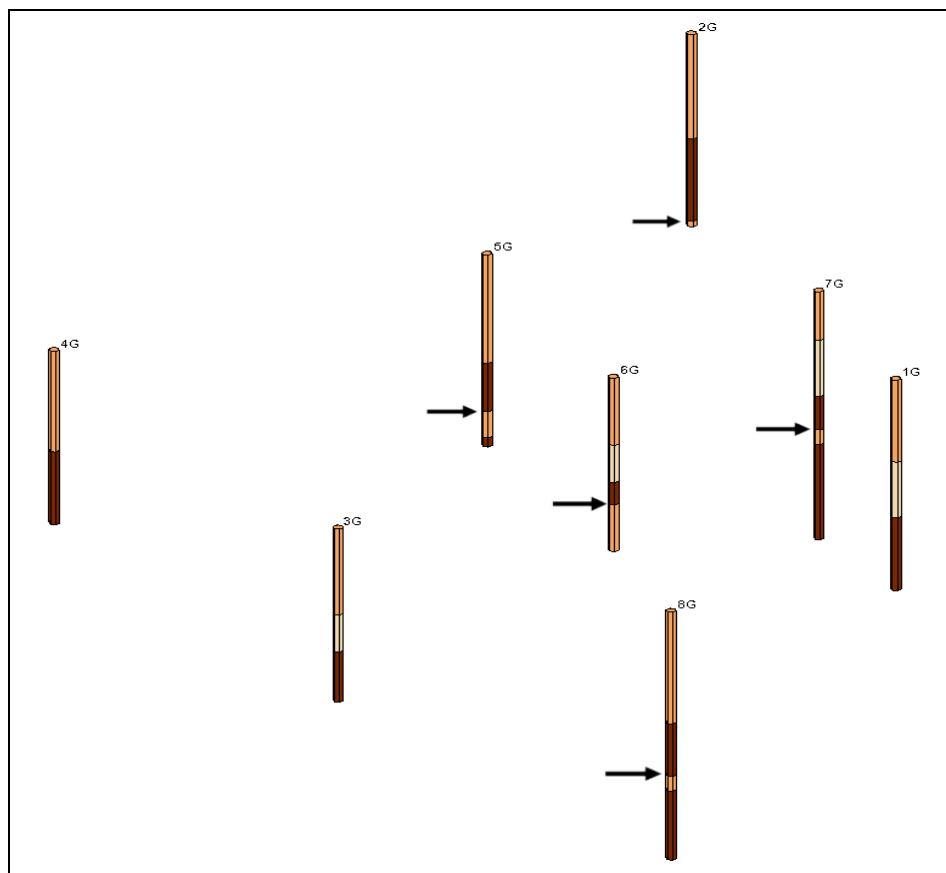

Figure 5 Contacts for Horizon 2
2. Select the borehole contacts shown in Figure 5 below.